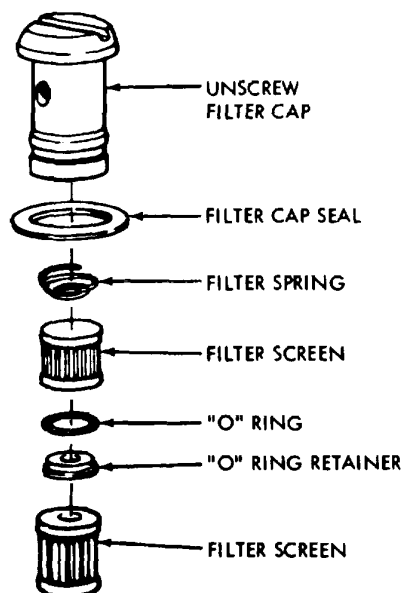

Figure 3-65. Fuel filter scree - MVS governor type.
(1) Remove filter screen assembly (fig. 3-17), which is made up of cap, cap seal, spring, upper and lower filter screen, O-ring, and O-ring retainer (fig. 3-65).
(2) Remove capscrews and washers securing MVS governor to main housing. Lift off governor and discard O-ring packing.
a. Removal Refer to paragraph 3-2 c (10).
b. Disassembly. There are two screen assemblies. The top screen cannot be disassembled, but the bottom one can, figure 3-65.
(1) Clean upper and lower screen assemblies and retainers in fuel oil and dry with compressed air.
(2) Inspect screens for breaks or holes in mesh or other damage.
(3) Replace worn or damaged parts.